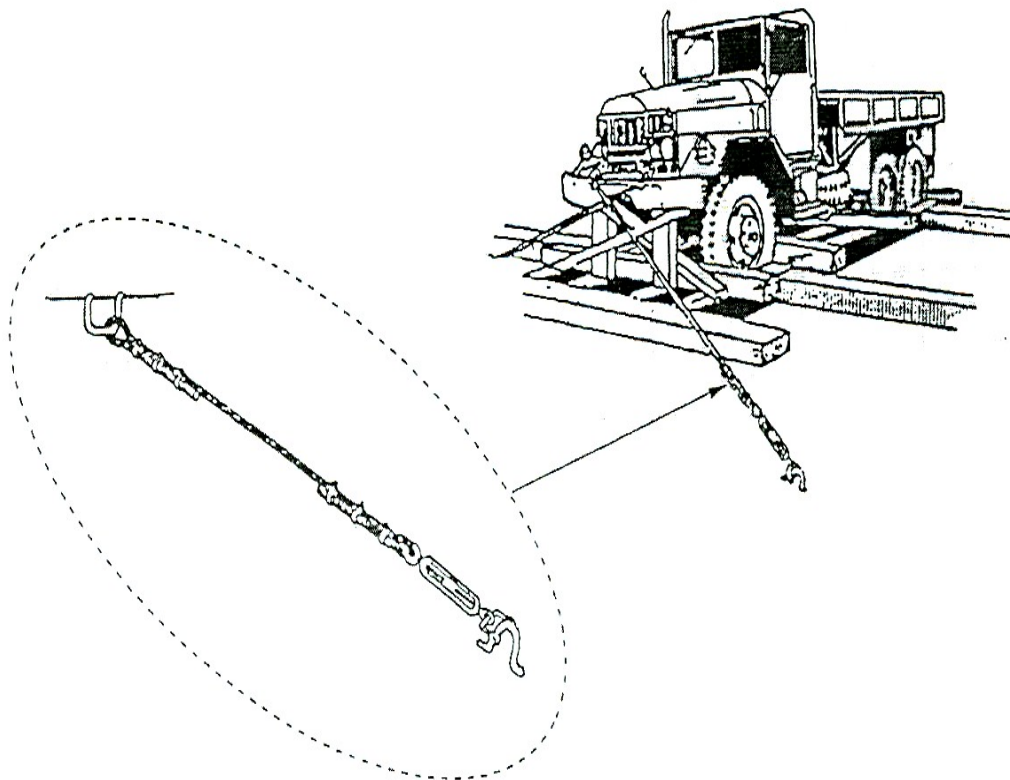

Figure 3-92
1. Load wheeled vehicle(s) aboard a cargo vessel (see Figure 3-92).